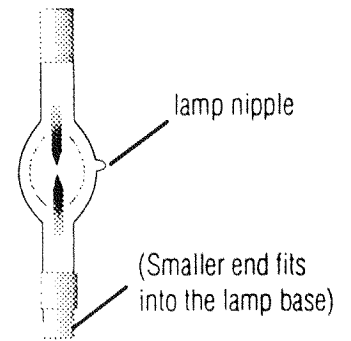

Figure 2.6 Xenon Lamp
9. Locate the *lamp nipple* on the xenon lamp. (See Fig. 2.6)